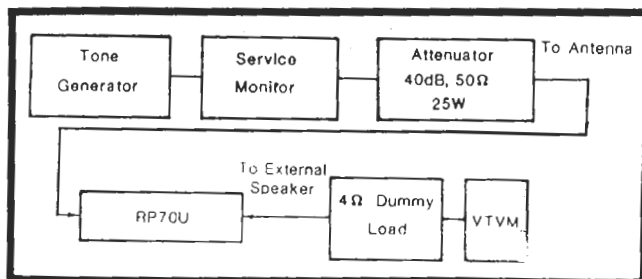

FIGURE 12. TN34 DECODER TEST SETUP
1. Connect the test equipment as shown in Figure 12.